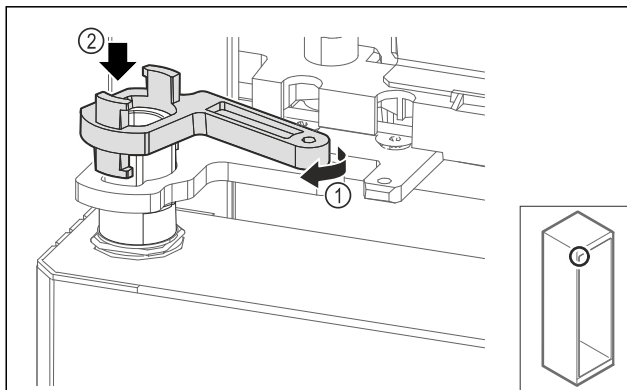

Fig. 65
- Turn the swap bearing block lock slightly and Fig. 65 (1) place it on the sleeve Fig. 65 (2).